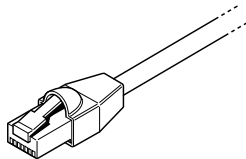

Figure 2-1 Xantrex Xanbus Cable
- Xantrex Xanbus cables—each Xantrex Xanbus-enabled device is connected by a standard straight-through Ethernet cable—CAT 5e. See Figure 2-1 on page 2–3. A 2.1 meter network cable is included with the Xantrex XW SCP. If more cables or a different length are required, these standard cables can be purchased from Schneider Electric or any computer supply store.